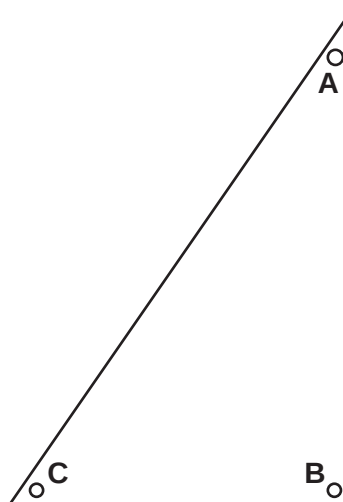

Fig. 1.1
2. Each card must have a small hole near each corner. These holes are to be labelled **A**, **B**, and **C** as shown in Fig. 1.1. The holes must be just large enough for the head of the pin or nail to pass through.